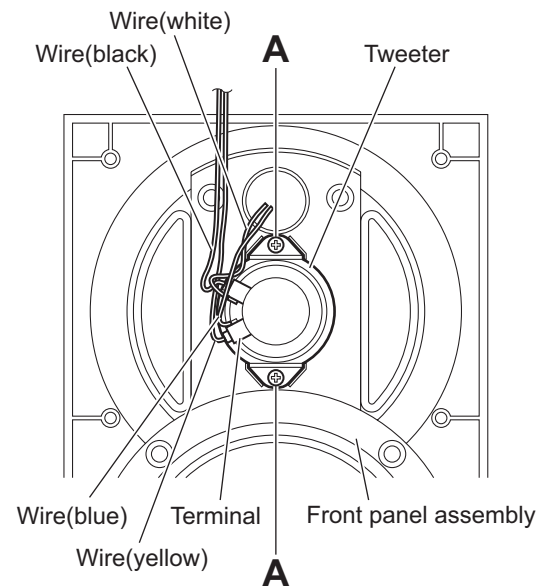

Fig.3
- (2) From the inside of the front panel assembly, disconnect the yellow and black wires from the terminal of the tweeter. (See Fig.3.)
3.4.3 Removing the tweeter (See Fig.3)